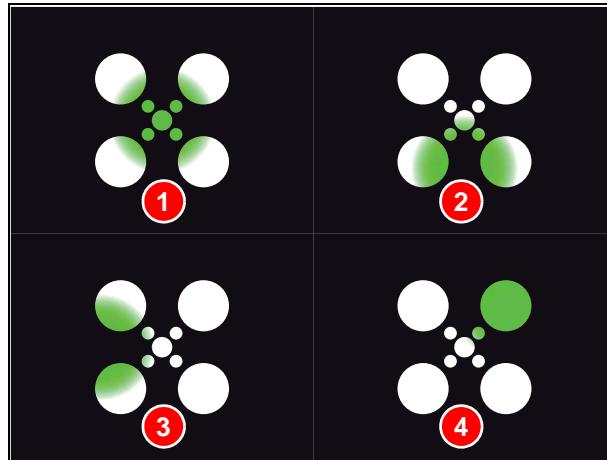
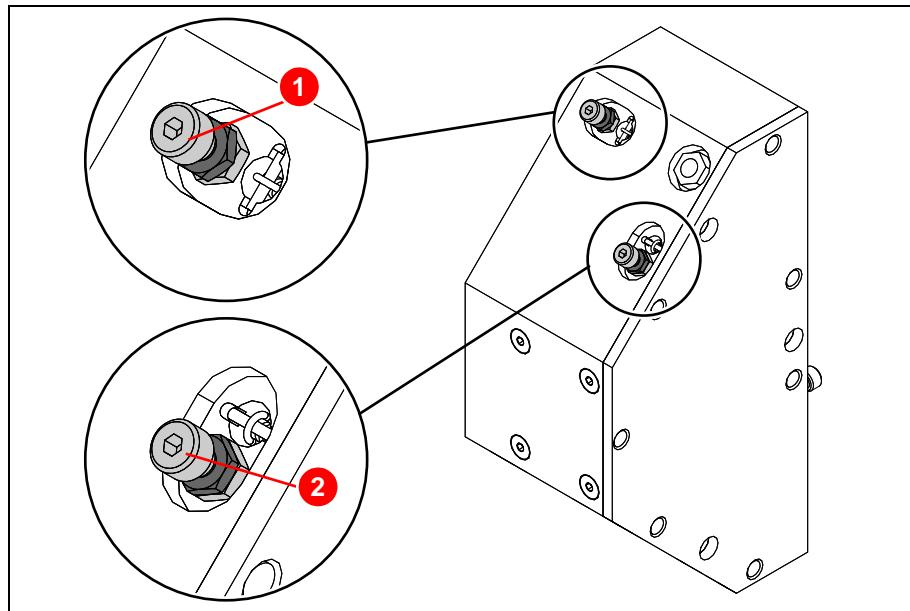

Figure 6.26 Checking the beam adjustment
Figure 6.27 Beam adjustment of the upper deflecting mirror
Figure 6.26 shows examples of possible projections:
- Horizontal adjustment (1) (Figure 6.27)
- Vertical adjustment (2) ()
21. Open the shutter and check the projection of the laser on the transducer disk (see figure 6.26).